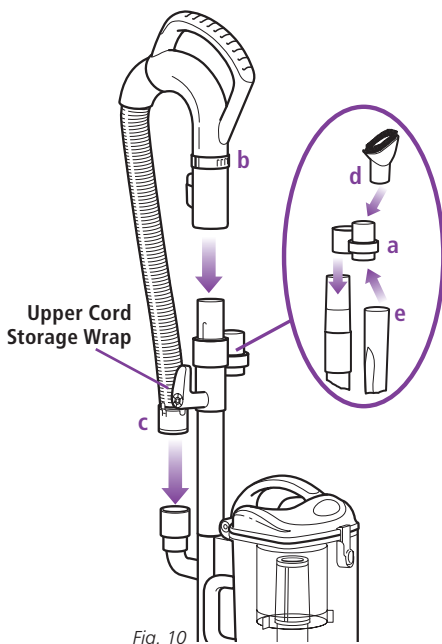

Fig. 10
- 4 Slide the accessory holder (a) positioned opposite the upper cord wrap, over the extension wand. Align the tab with the groove and push down. (Fig. 10)
- 5 Push the handle (b) onto the top of the extension wand until you hear it click into place. (Fig. 10)
- 6 Insert the end of the stretch hose (c) into the connector on the back of the *Lift-Away*® canister. (Fig. 10)
- 7 Store the dusting brush (d) and the crevice tool (e) on the mounts of the accessory holder. (Fig. 10)